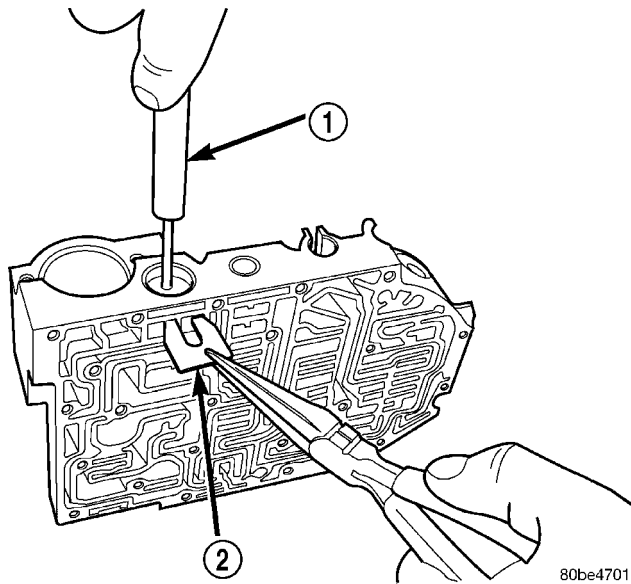

Fig. 357 Install Regulator Valve Spring Retainer using Tool 6302
- (2) Install regulator valve spring retainer (Fig. 357).